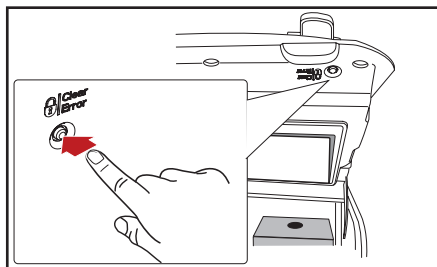

Fig. 4.7 - LOCK/Clear-Error button
2. Press the LOCK/Clear-Error button to block the drink delivery (fig. 4.7).